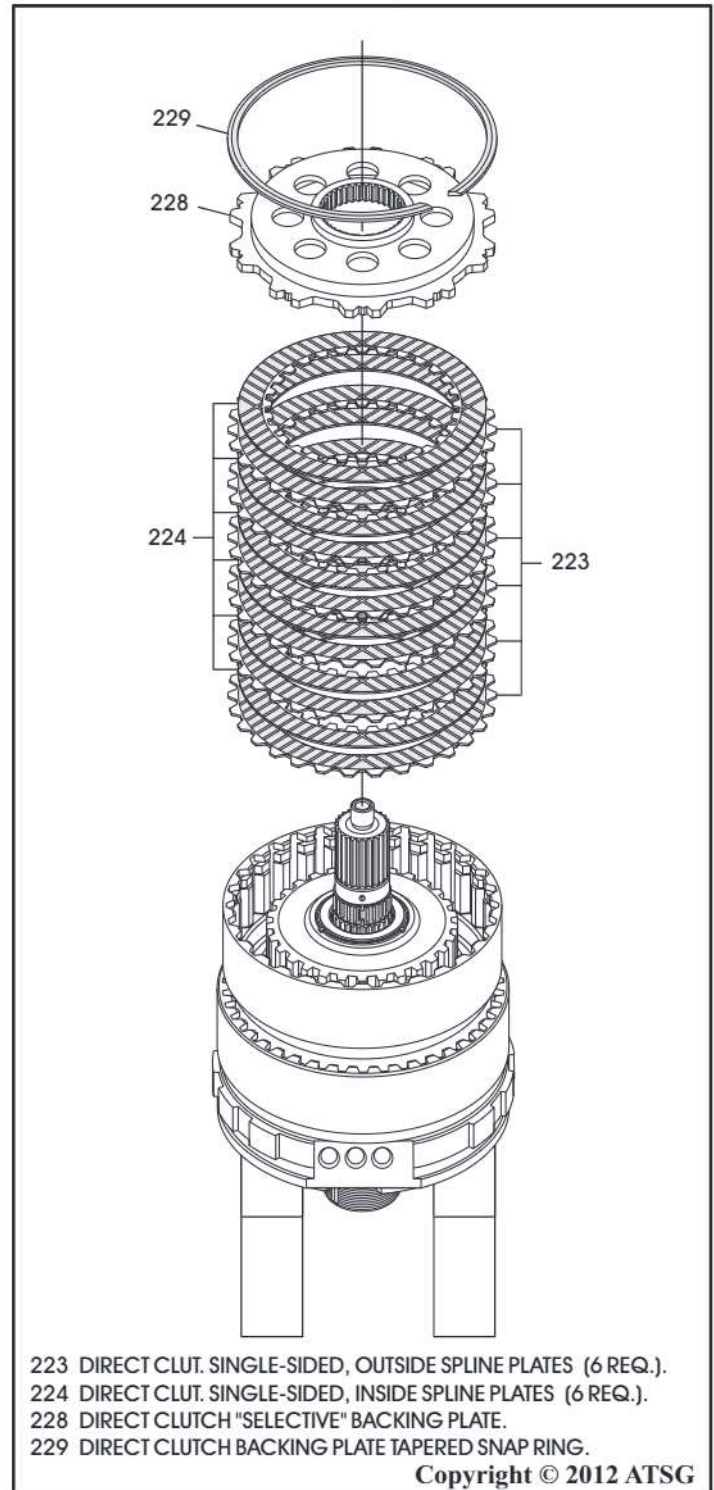

Figure 166
24. Install the "single-sided" direct clutch plates beginning with an outside-spline plate and then alternating with inside-spline plates until you have installed 6 of each, as shown in Figure 166.
25. Install the "selective" direct clutch backing plate as shown in Figure 166.
26. Install the direct clutch backing plate **tapered** snap ring, with tapered side facing up, as shown in Figure 166.